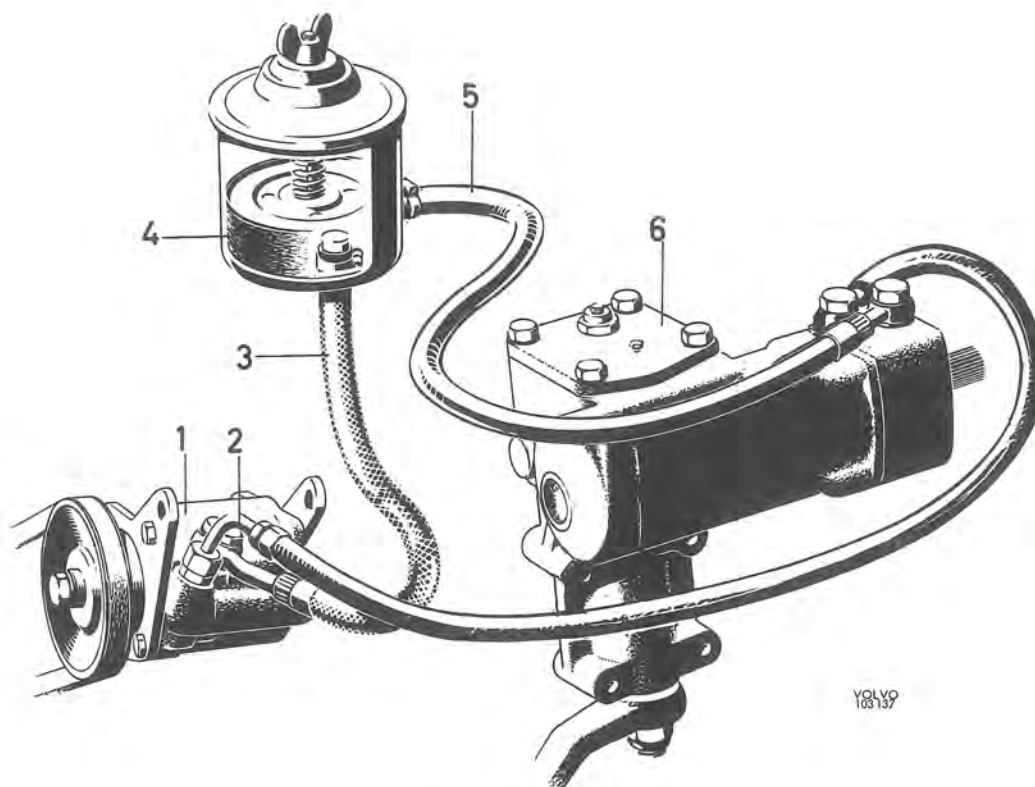
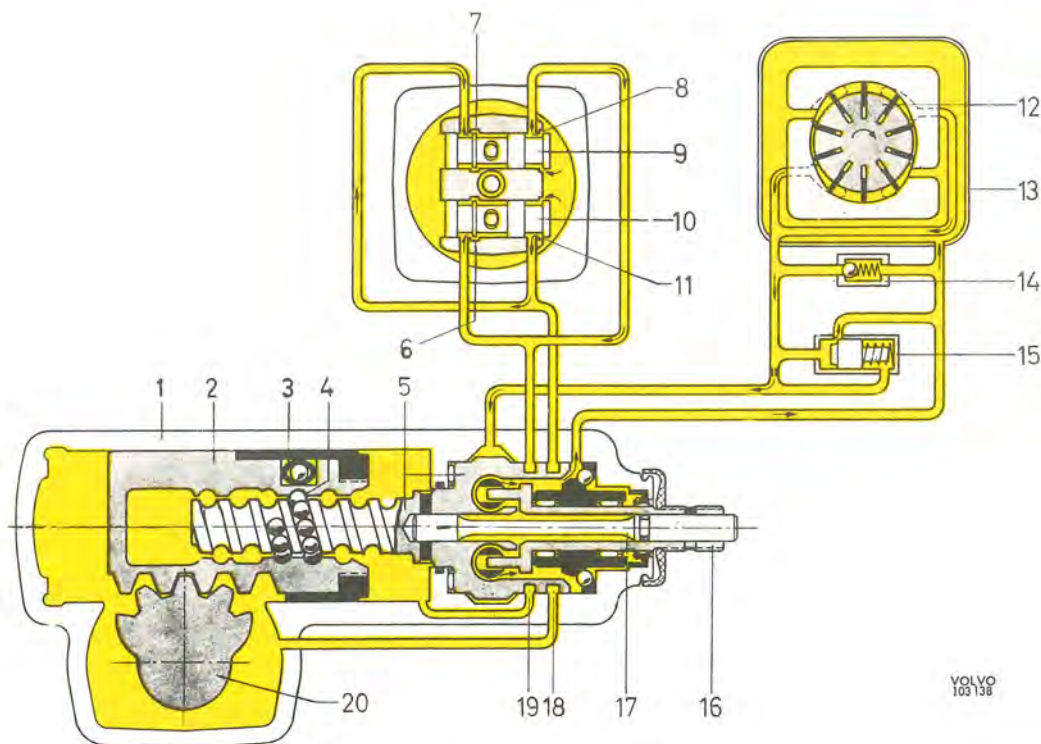

Fig. 6-37. Servo steering
Fig. 6-39. Function, neutral position
This vehicle is fitted with the ZF recirculating cam and ball nut type servo steering. The main components of the servo system are the steering box, servo pump and oil container with filter. These are connected to the various oil lines, see Fig. 6-37.
The steering gear is of the cam and roller type. In addition to the mechanical section, the servo cylinder and control valves are built into the steering box. The lower part of the steering box (1 Fig. 6-39) is in the shape of a cylinder in which the piston (2) is fitted. On the one side the piston is in the form of a rack gear which meshes with the tooth segment of the lever shaft (20).
The construction of the steering gear differs with regard to a left-hand steered and a right-hand steered vehicle in the matter of the location of the lever shaft and the steering cam thread. Fig. 6-37 shows the steering gear for left-hand steering while Figs. 6-39—6-41 shows that for right-hand steering. The following description of the function applies to both.
The location of the steering valves as well as that of the oil flow are shown schematically in Figs. 6-39, 6-40 and 6-41. In order to illustrate more clearly how
Oil is conveyed under pressure from the pump into an annular chamber round the valve housing (the large circle in the cross-section). In the neutral position (Fig. 6-39) the valves (9 and 10) are so adjusted that oil can pass the intake ports (8 and 11) and flow on to the annular grooves (18 and 19) in the valve housing. From here the oil is led partly to both sides of the piston (2) through the channels (18 and 19), and partly — as long as the valves are in the neutral position — to both the return grooves (6 and 7) at the control valves. From the return grooves oil flows through the return channel back to the container.